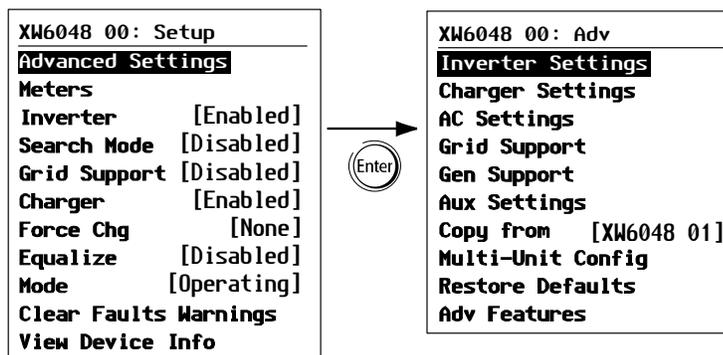

Figure 3-2 Selecting Advanced Settings
- ◆ From the Setup menu, with `Basic Settings` or `Advanced Settings` highlighted, press Enter. See Figure 3-2.